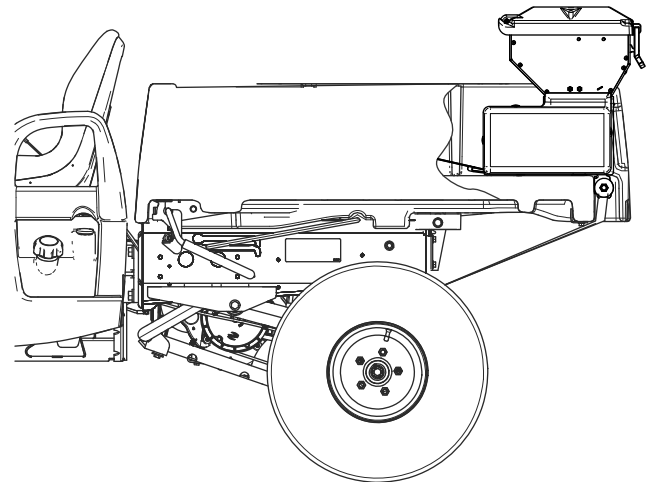

Figure 32
2. Slide the spreader onto the UTV bed until the bed stops contact the bed (Figure 32).